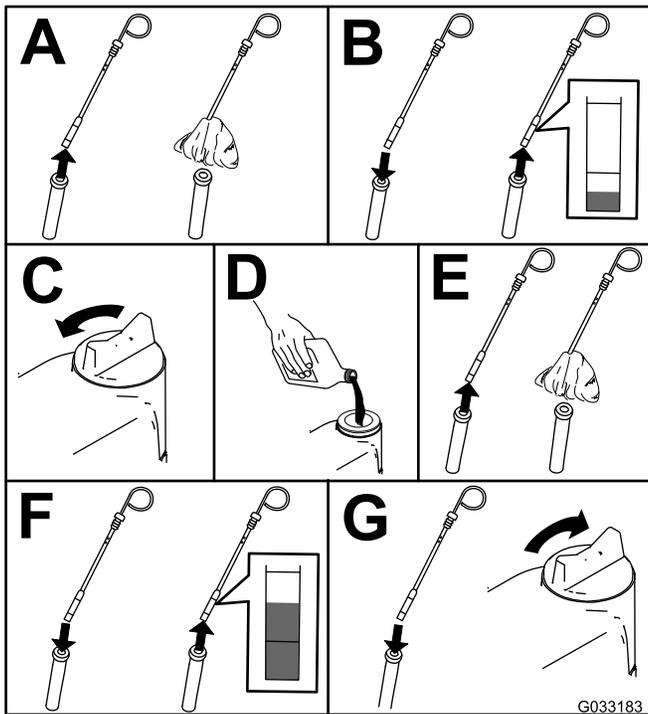

Figure 54
2. Check the engine-oil level (Figure 54).